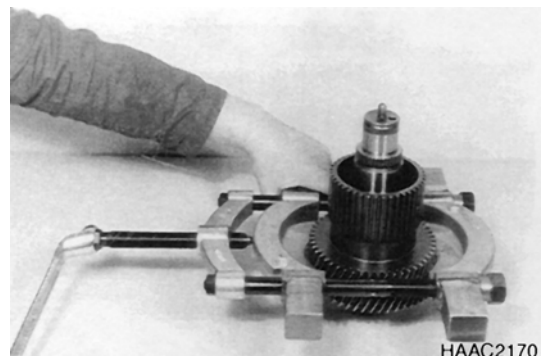
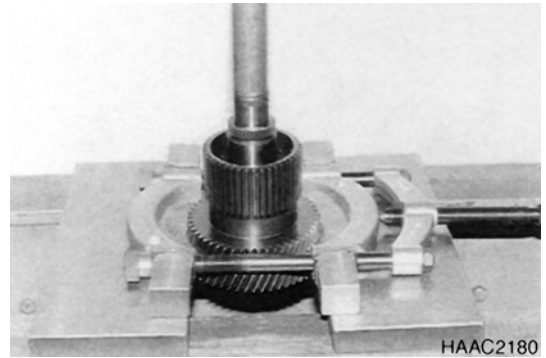

Figure 138
Figure 139
10. Locate idler gear using separating device (Figure 138) and press it from the shaft (Figure 139).